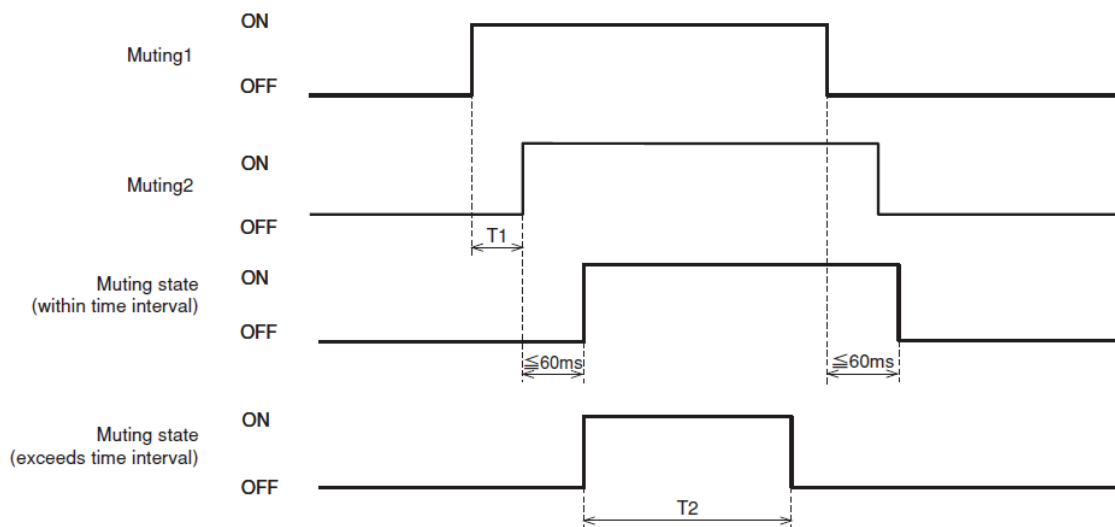

Figure 3-20 Muting sequence
- b) The two independent hard wired muting input signals are switched to ON state in the predefined sequence within the pre-set time interval. However, the switching interval between two input signals should not be 0 (Refer to figure 3-20).
- When the predefined (preset) maximum muting time T_2 exceeds (1 minute and above) (Figure 3-20).
Figure 3-20 shows the muting sequence.